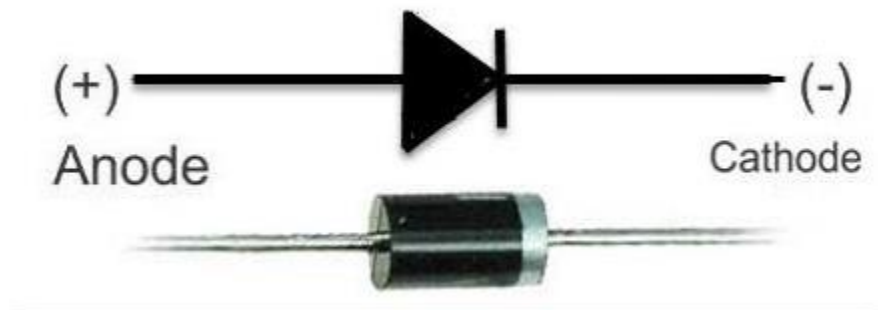

Figure 3 Rectifier Diode Symbol
A **rectifier** is an electrical device that converts alternating current (AC), which periodically reverses direction, to direct current (DC), which flows in only one direction. The reverse operation is performed by the inverter. This diode is capable to conduct the values of current which changes from mA to a few kA & voltages up to a few kV. The symbol of a rectifier diode symbol is shown in **Figure 3**[1]